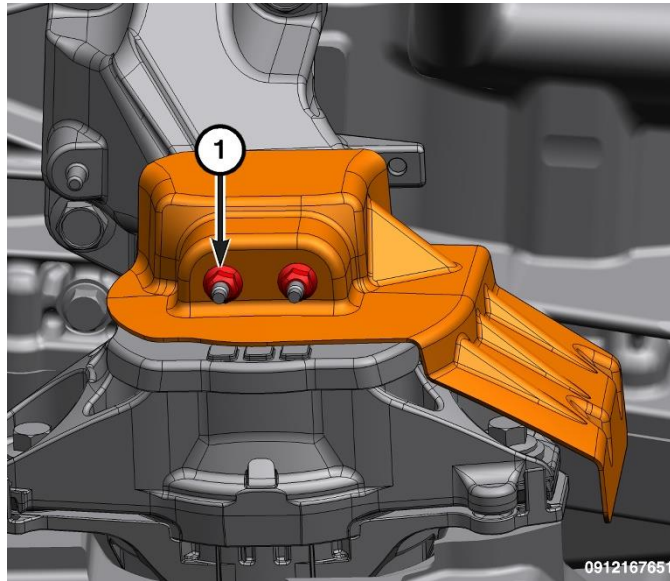

Figure 2.
3. Remove the left engine mount heat shield nuts and the left engine mount heat shield. (Figure 2)